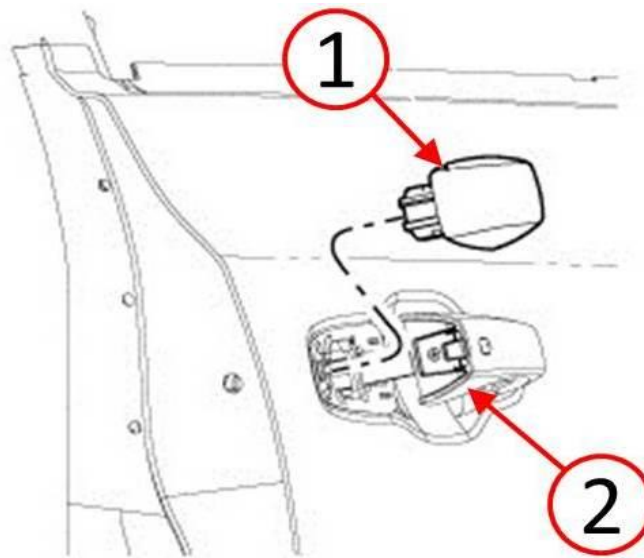

Fig. 5 Remove Door Handle Cap
5. Lift the exterior door handle (2) to the open position (Fig. 5).
6. Continue holding the exterior handle (2) in the open position while removing the door handle cap (1) (Fig. 5).